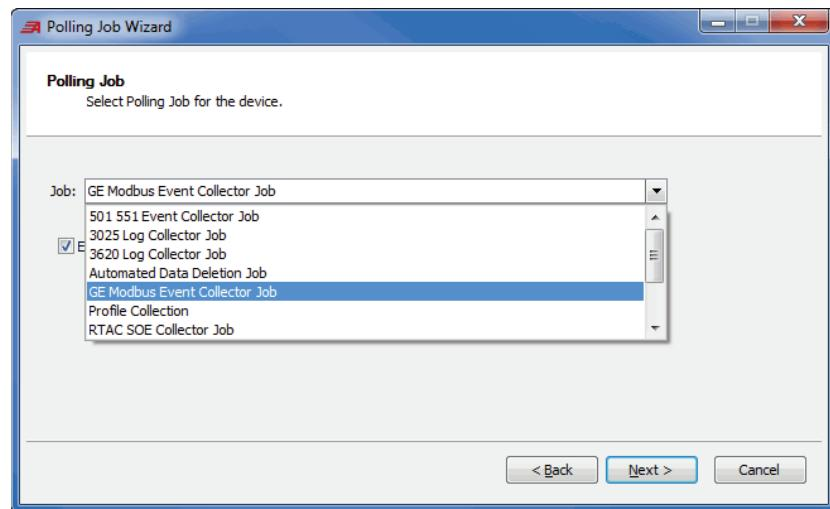

Figure 57 Polling Job Wizard
- Step 7. Remain in the **TEAM** tab. Select **Add** under the **Polling Jobs** section to start the **Polling Job Wizard**. On the **Polling Job** window, select **GE Modbus Event Collector Job** from the drop-down menu, as shown in *Figure 57*. Select **Next** to open the **Configure Job** window.